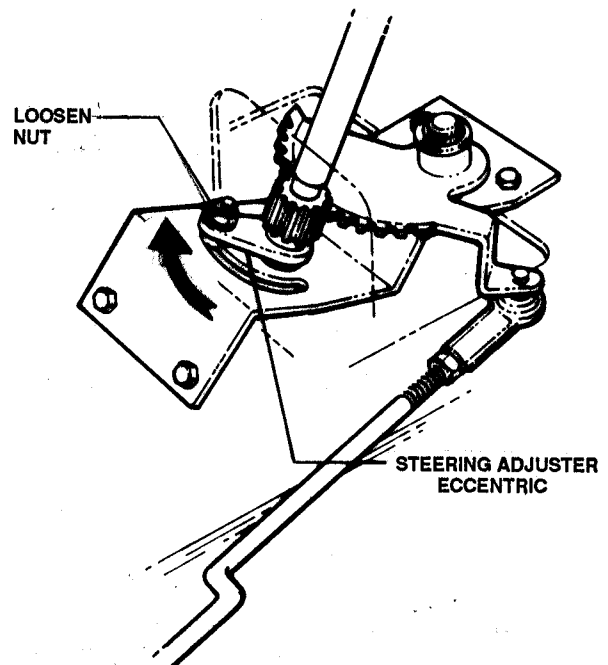

FIGURE 5.11A
- (1) Working from the left side of the tractor, use a 7/16" wrench to loosen nut on top of steering adjuster carriage bolt. See Figure 5.11A.
- (2) Push eccentric clockwise (towards R.H. side of tractor) until free-play in steering wheel is minimized.
- (3) Retighten nut.